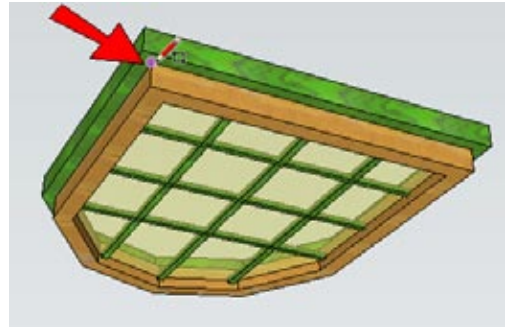

Figure 7-44
3. Orbit to view the back of the window. The cutting face will cover the exterior boundary of the brown frame, along the face shared by the brown and green frames. This is the plane where the window will meet the front face of the wall. Start a rectangle at the corner where the green and brown frames meet (Figure 7-44).